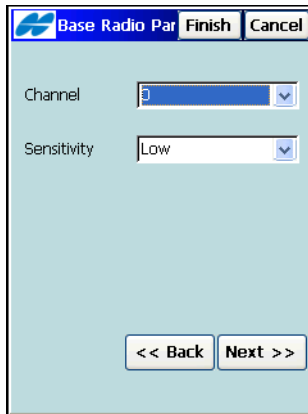

Figure 3-17. Pacific Crest Radio Parameters
- For Pacific Crest and Internal HiPer (Pac Crest) Radio Modem. The **Next** button on the **Base Radio** screen opens the **Base Radio Parameters** screen (see Figure 3-17 on page 3-19).
the screen contains the following parameters (Figure 3-17 on page 3-19):